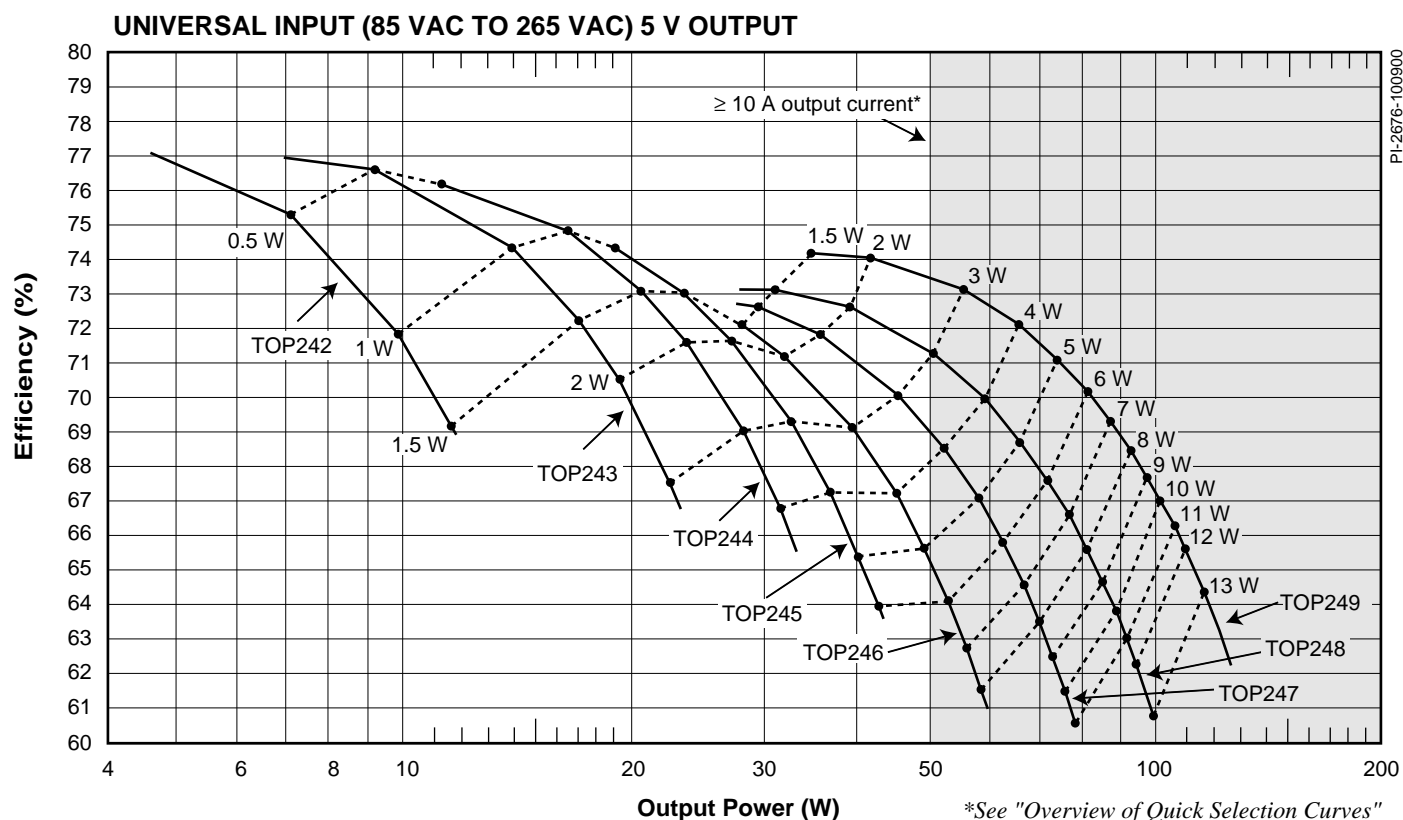

Figure 2. Efficiency vs. Output Power with Contours of Constant TOPSwitch-GX Power Loss for Universal Input and 5 V Output.
Consider a 5 V / 30 W power supply with universal input range. From the curves in Figure 2, we can see that the TOP244 can
Consider a 70 W, 12 V power supply with Universal input range. From the curves in Figure 2 we see that there are four possible device choices:
- For low voltage outputs, the secondary currents and their associated losses can become significant. Close attention must be paid to the 'ESR' (Equivalent Series Resistance) of the output capacitor in particular. The values in Tables 2 and 4 for the 5 V Quick Selection Curves (Figures 2 and 4) use capacitors with very low-ESR.